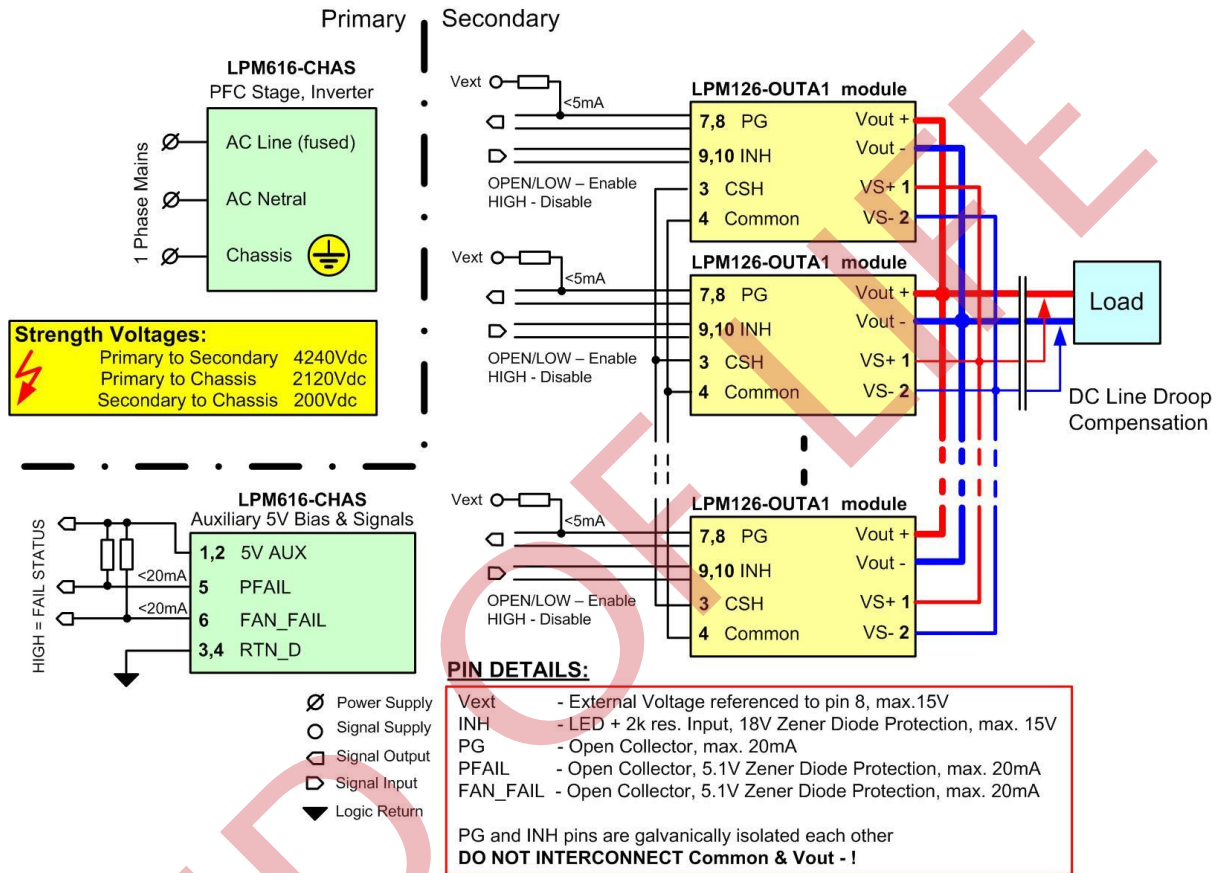

Figure 15. LPM616 – Paralleling Connection Diagram for LPM126 Modules
- 3 The interconnection is shown in *Figure 15* (especially all pins 3 - CSH and all pins 4 - Common must be reconnected). Modules K-N cannot be connected in parallel.